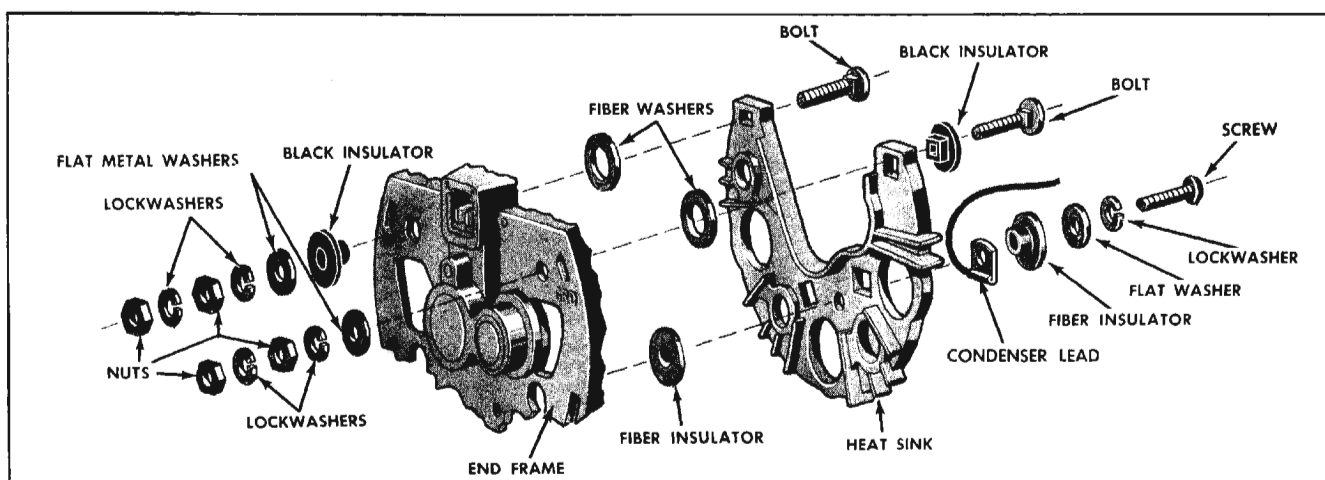

Fig. 14-24 Slip Ring End Frame Assembly
2. Install the heat sink, making sure insulated washers are installed as shown in Fig. 14-24.